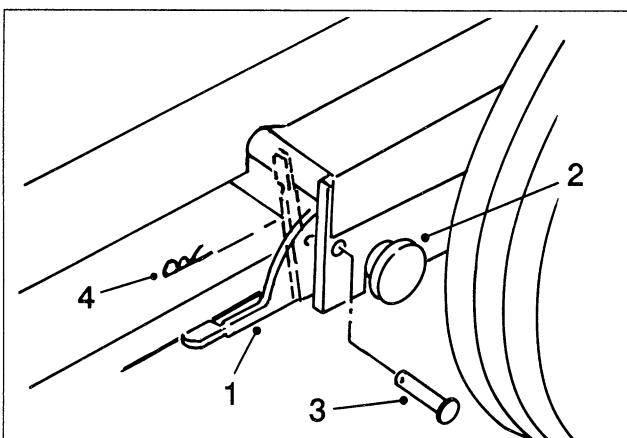

Figure 12
- Lock it in position by pulling the latches down (Fig. 12). Install the keeper pins and hairpin coppers.